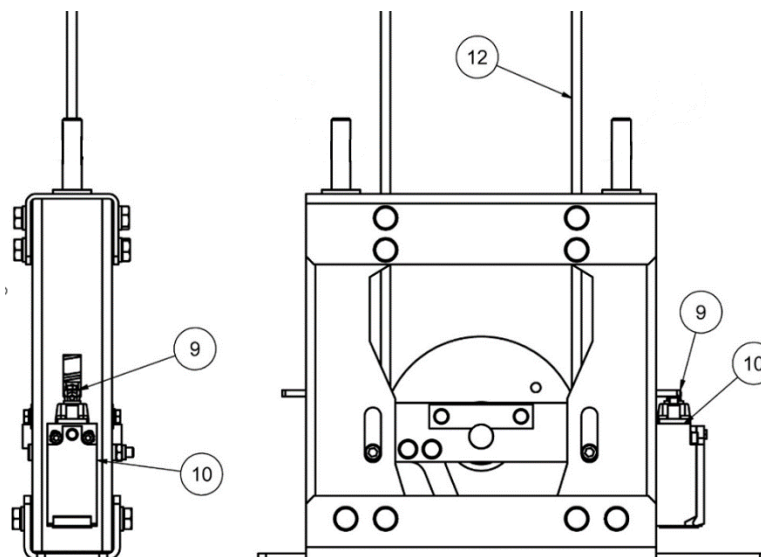

Figure 20: Rope without the correct tension
If, after completely unthreading the nuts, it is detected that the de-tensing contact actuator (9) is in contact or about to contact the de-tensing contact (10) (See Figure 20), release the rope (13) from the cable-clips (14), and pre-tighten the free end of the rope again.